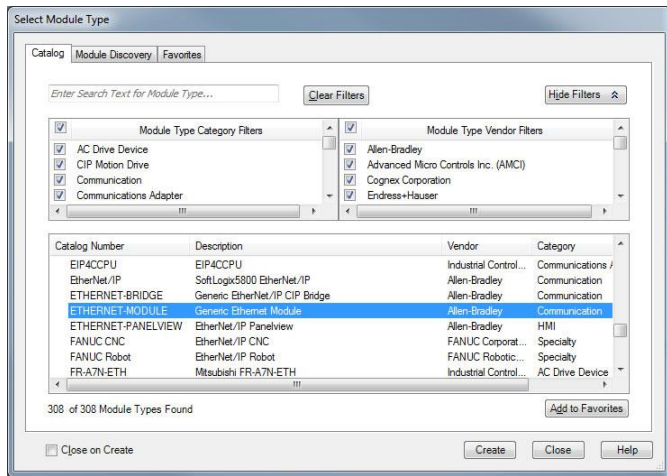

Figure 25: Adding a New Generic Ethernet Module
- 3) Choose "Generic Ethernet Module" in the Select Module dialog box and click "Create". Refer to Figure 25.